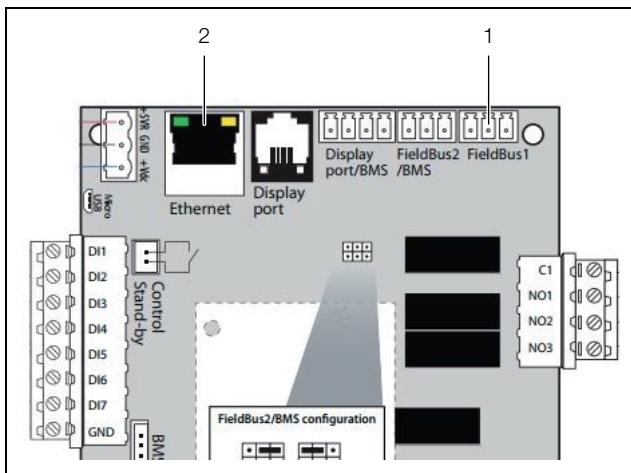

Fig. 10: Connectors
- On the board use the "FieldBus1" connector (fig. 10, item 1) to connect the appliance to a monitoring device.
- On the board use the "Ethernet" connector (fig. 10, item 2) to connect the appliance to a monitoring device via web pages.